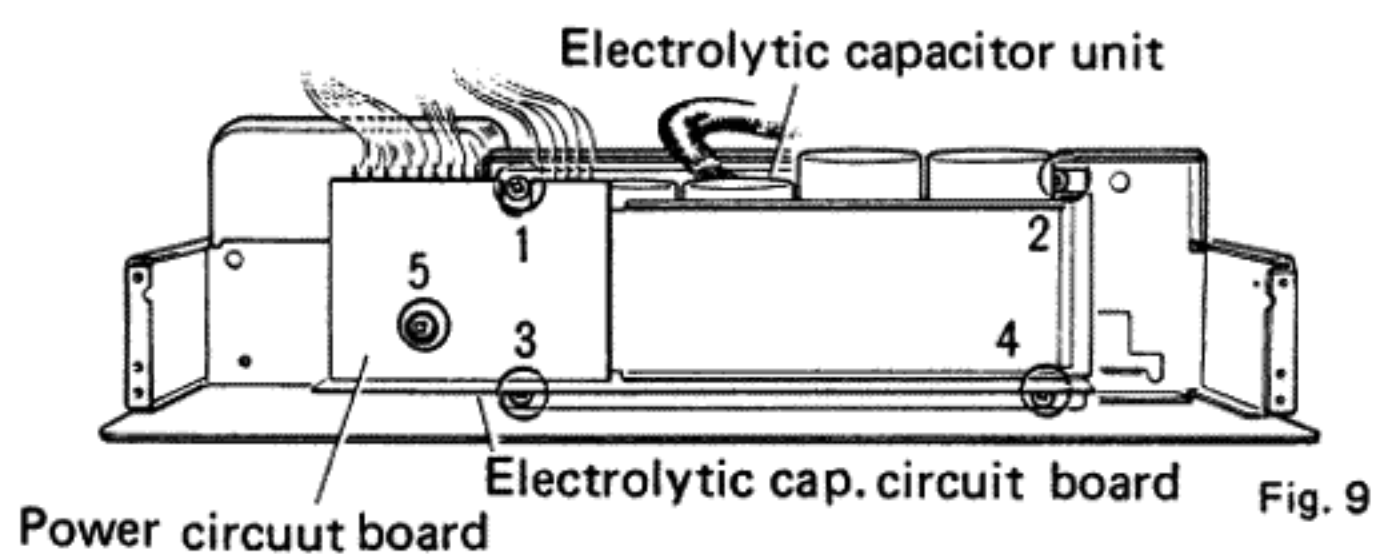

Fig. 9
- Remove screws ① through ⑤ in the inner part of the hole of the power circuit board in Fig. 9, and remove the electrolytic capacitor unit.